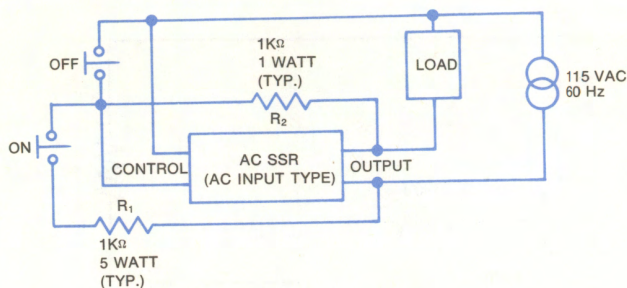

Fig. 2-21 Latching AC SSR.
2.6.7 Latching AC SSR (Fig. 2-21)